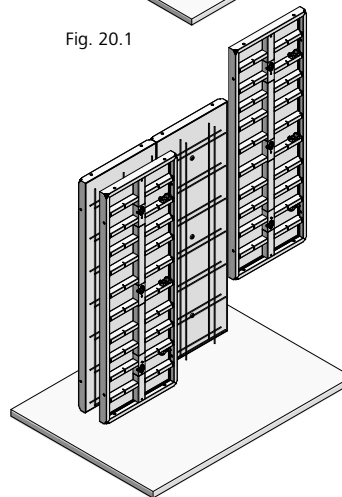

Fig. 20.3
3. Place final-formwork panel (Fig. 20.3).